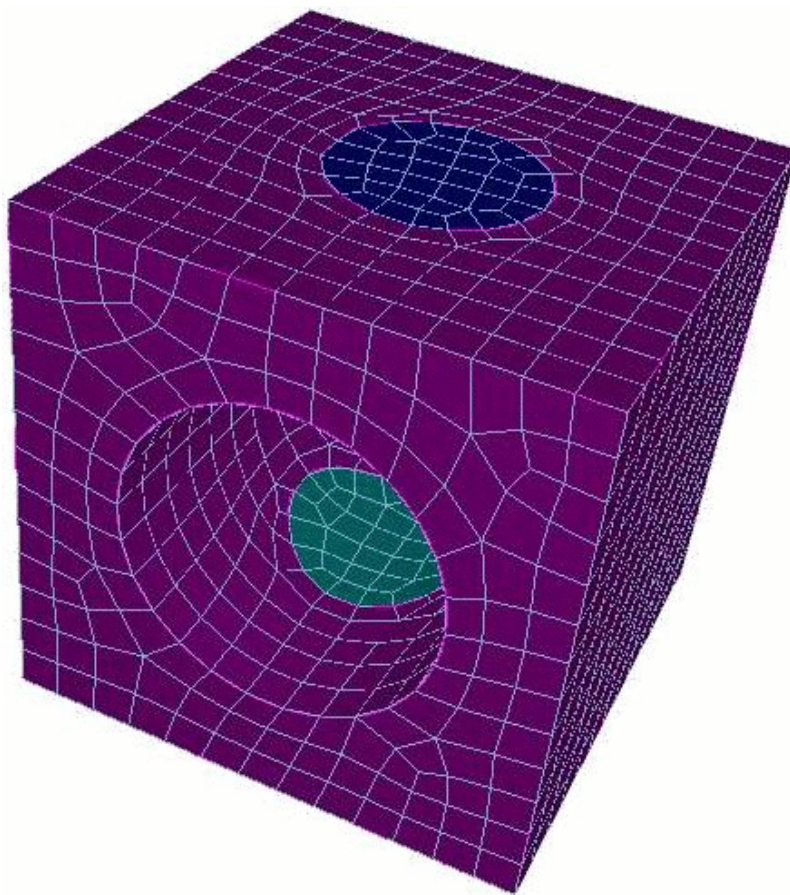

Figure 4: The mesh after meshcutting
Step 3: Cut the mesh. Figure 4 shows the new mesh after the original mesh has been cut. At this point we have 3 meshed volumes. The commands for this step are: